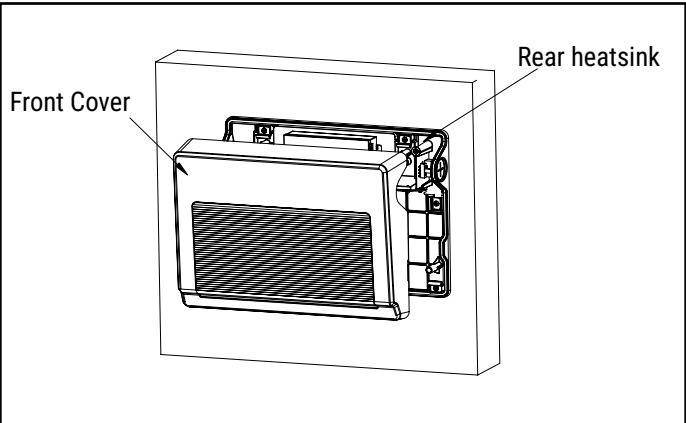

Figure 8
- 6. Fasten the front cover onto the rear heatsink by carefully snapping into place, ensuring it is securely latched on all sides. Ensure wires are not pinched during installation. (Figure 8)